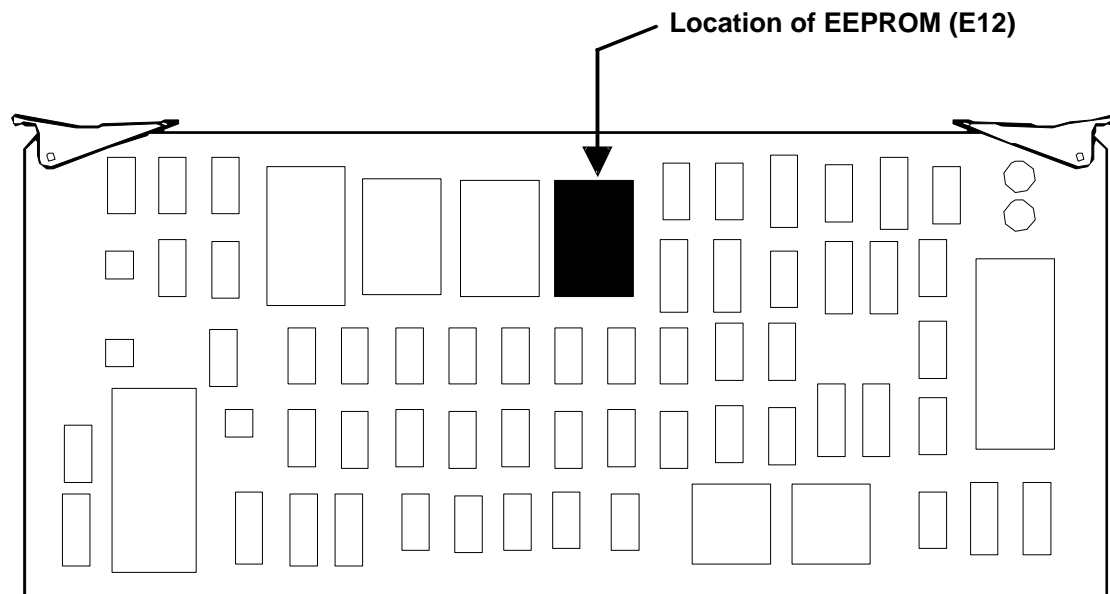

Figure 1: Location of EEPROM (E12) on MPU (UN101)
9. Remove the old EEPROM (Version 3.2, P/N 42787-103) from location E12 (see Figure 1 for location) by gently prying up on the EEPROM chip between the socket and EEPROM chip with a small flat head screw driver. Note the orientation of the chip before you remove it.